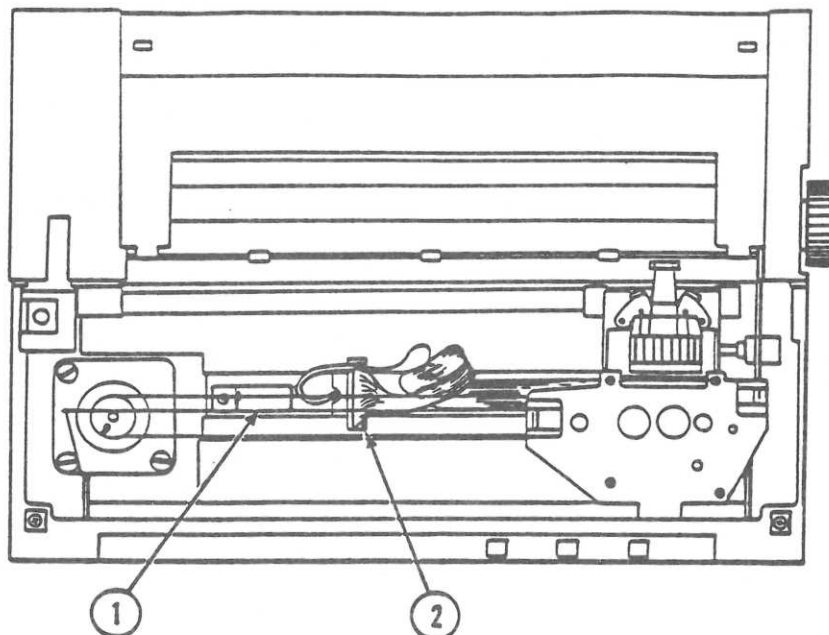

FIGURE 10
5. Loosen, but do not remove, the metal clip and gently pull up the ribbon until you can reach the dot head connector. (See Figure 10, #1.)
6. Gently work free the dot head connector. (You might use the needle nose pliers to grasp the connector.) (See Figure 10, #2.)